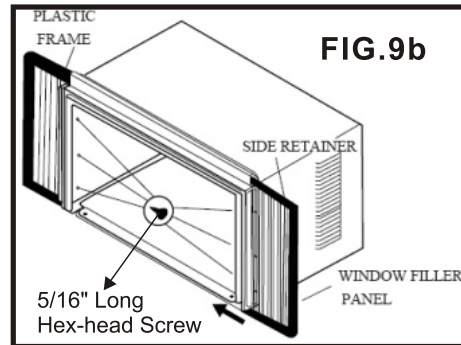

FIG.9b
5. Insert top and bottom legs of window filler panel frame into channel in the top angle and bottom rail. Do both sides. Install side retainer to cabinet as shown. (FIG.9b-10).